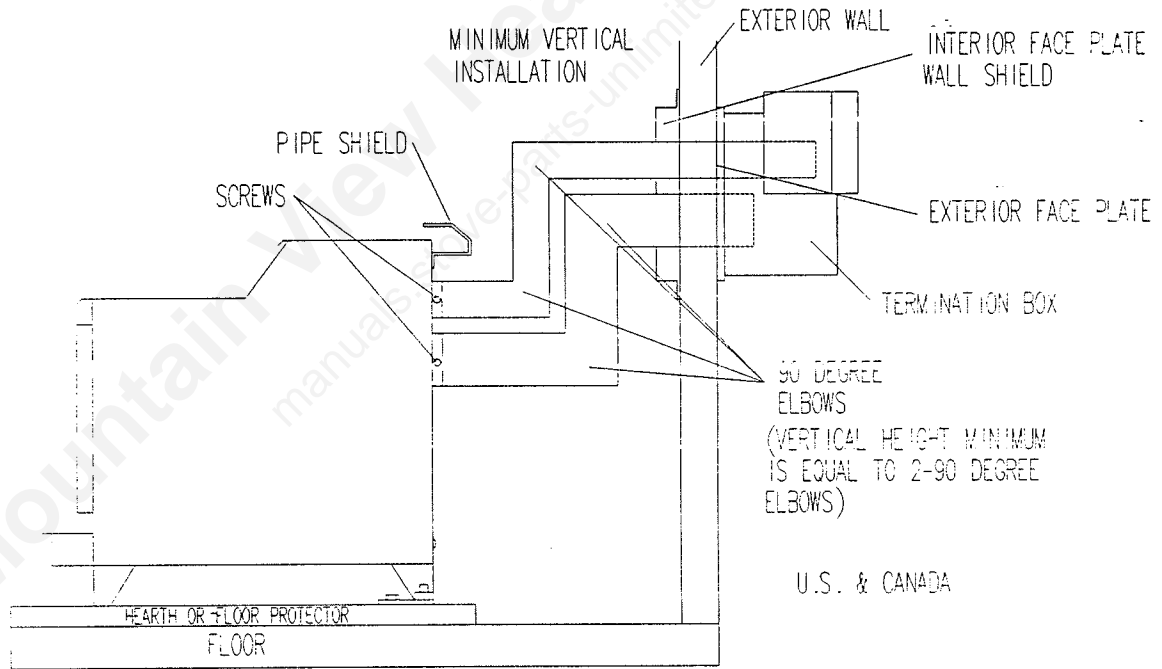

Figure 13
- (1) Determine the exact position of your gas heater. If possible place heater in such a manner that the piping will be placed between two wall studs, so no additional framing is necessary. For through the wall installation see section (B) 1-10.
- (2) The minimum vertical installation is to reverse two 90 deg. elbows before going through the wall. See Figure 13.